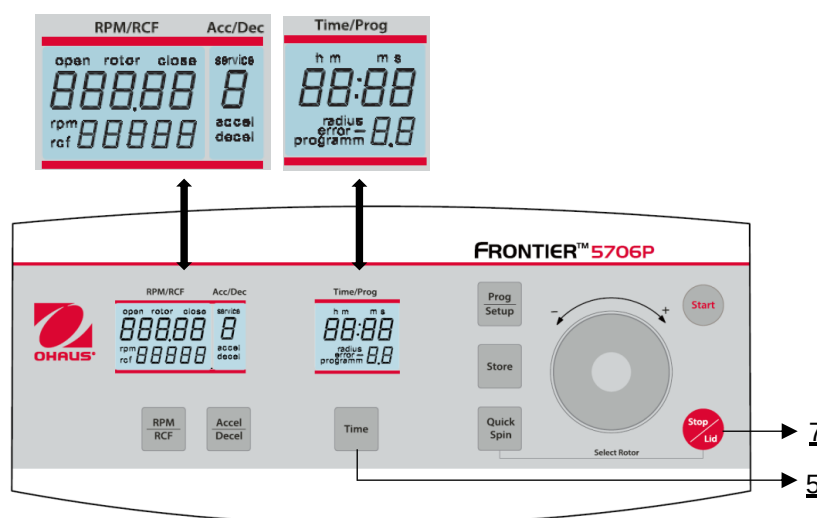

Figure 28
Open the centrifuge lid and shut off the main switch. Now switch on again the main switch. For approximately 3 seconds “5706P” will be shown in the display as well as the current software version. Press during this time the keys **“Time”** (5) and **“Stop/Lid”** (7) simultaneously. As a result, a display test is executed for approx. 3 seconds. All indicators will appear at the same time (see **Figure 28**).